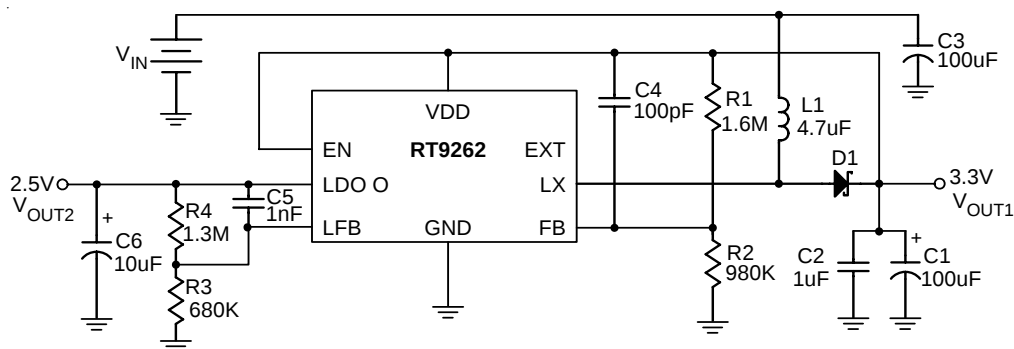
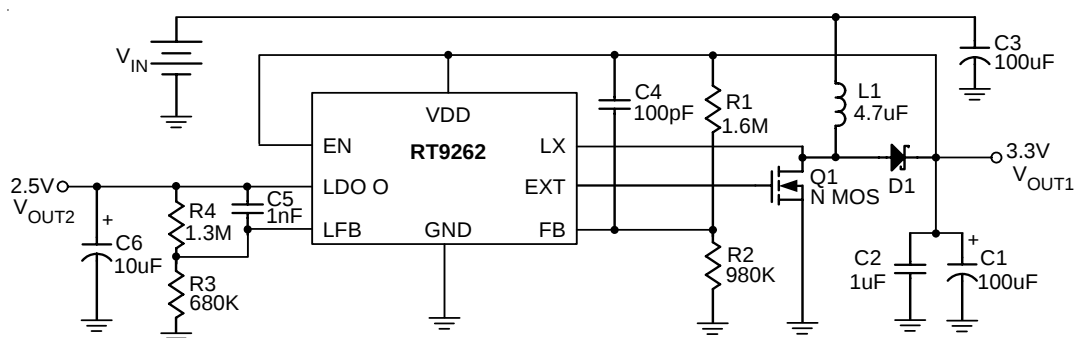

Figure 1. RT9262 Typical Application for Portable Instruments below 400mA
Figure 4. 0.4A ~ 2A Output Current Application
Referring to application circuits Figure 1 to Figure 5 the output voltage of the switching regulator (V_{OUT1}) can be set with Equation (1).
Referring to application circuits Figure 1 to Figure 5. The selection of R1, R2, R3, and R4 based on the trade-off between quiescent current consumption and interference immunity is stated below:
- Follow Equation (1) and Equation (2).
- A proper value of feed forward capacitor parallel with R1 (or R4) on Figure 1 to Figure 5 can improve the noise immunity of the feedback loops, especially in an improper layout. An empirical suggestion is around 100pF ~ 1nF for feedback resistors of MW, and 10nF~0.1μF for feedback resistors of tens to hundreds kΩ.
- The following diagram is an example of 2-layer board layout for application circuits Figure 1 to Figure 4.